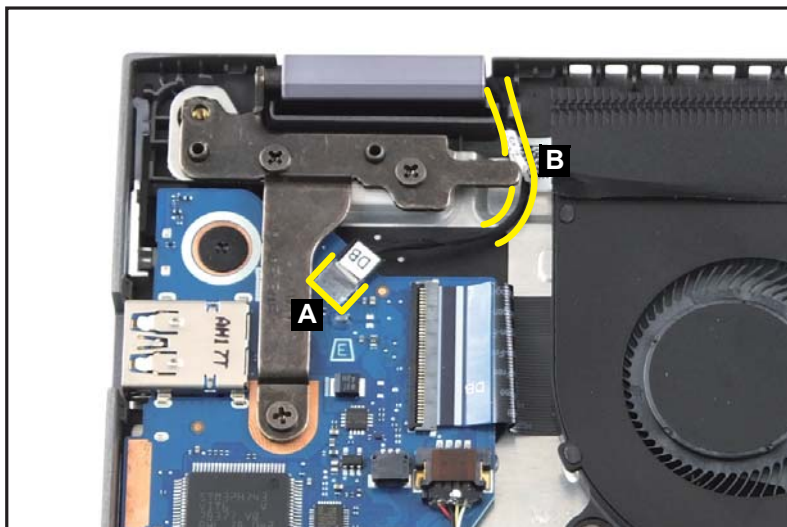

Figure 1-17. LCD Module Removal
1. Disconnect the G-sensor cable from the USB board connector (A) (Figure 1-17).
2. Unroute the G-sensor cable from the cable guide (B) (Figure 1-17).